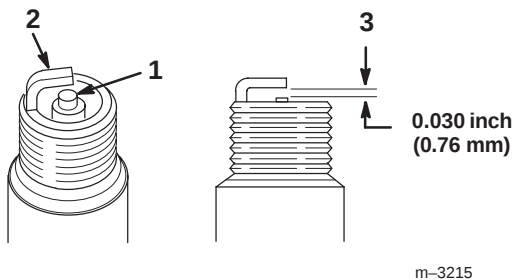

Figure 41
1. Look at the center of both spark plugs (Fig. 41). If you see light brown or gray on the insulator, the engine is operating properly. A black coating on the insulator usually means the air cleaner is dirty.
2. Check the gap between the center and side electrodes (Fig. 41).
3. Bend the side electrode (Fig. 41) if the gap is not correct.